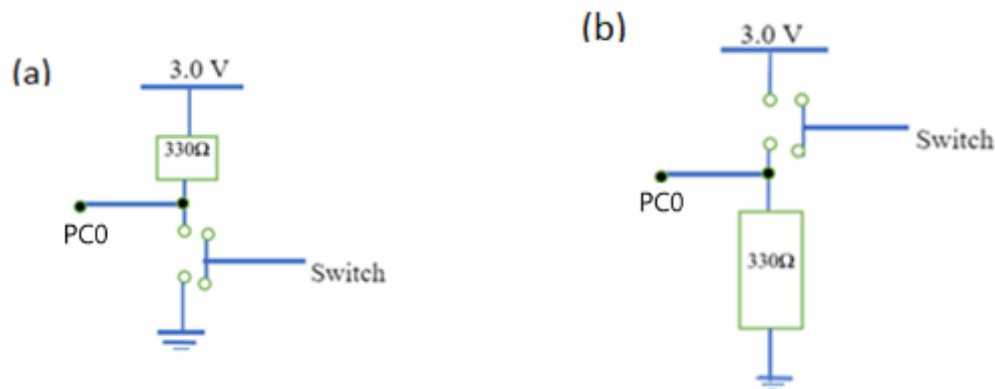

Figure 1. (a) Pull-up and (b) pull-down resistor settings
1. Program an STM32 microcontroller to light up two LEDs based on the state of a switch. Read an input coming from breadboard switch. If the input bit is low, light up LED1 on the breadboard. Else (input bit must be high), light up LED2 on the breadboard. You may use PC0 as the input pin and PC1 and PC2 as output pins for the two LEDs. Decide on whether you will use a pull-up or pull-down resistor for the input pin. The pull-up and pull-down resistor settings are shown in Fig. 1.